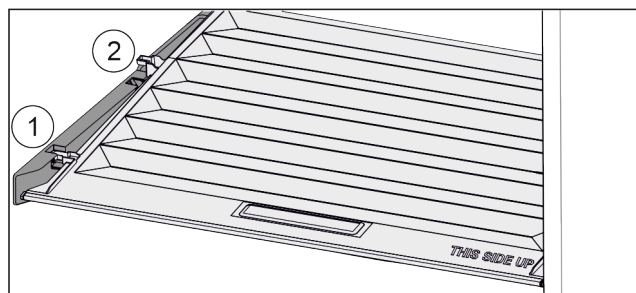

Fig. 41
- Pull the lid up at the front in the retaining parts to the opening Fig. 41 (1).
- Lift from the back and pull it up and out Fig. 41 (2).